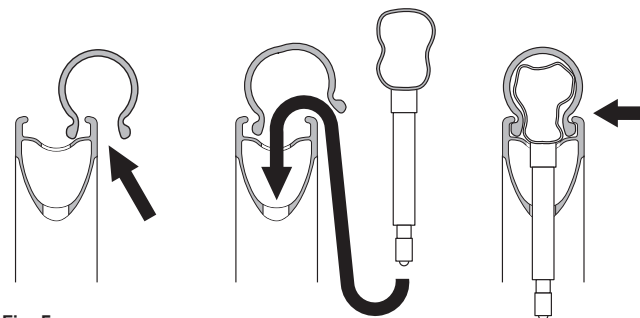

Fig. 5
- Insert one side of the tyre into the seat provided on the rim (Fig. 5).